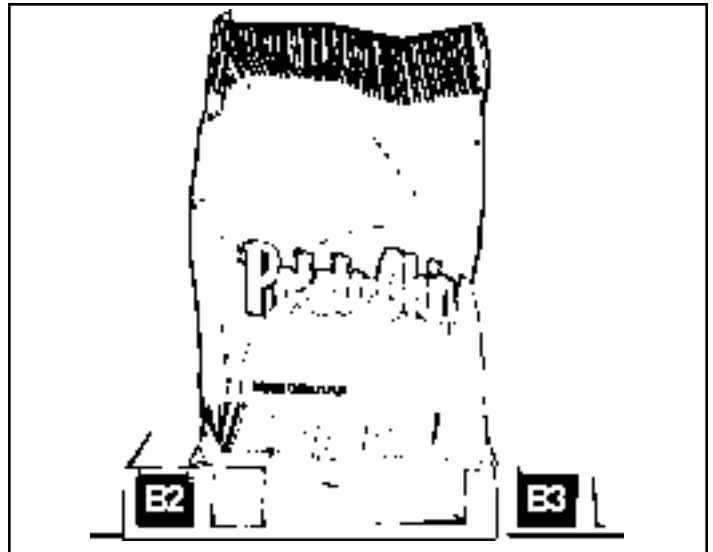

Figure 2. Placement of product on main product snack shelves and front end position of spiral.
**IMPORTANT:** Product must not be forced into the spiral spaces but should fit freely. If the product is too tight, use a larger pitch spiral. The bottom of the product should be placed on top of the spiral wire that rests on the shelf surface. (*Figure 2.*) The width of the product must be greater than the diameter of the snack spiral. If it is smaller, the product may fall through when it is in the front, ready to vend position.